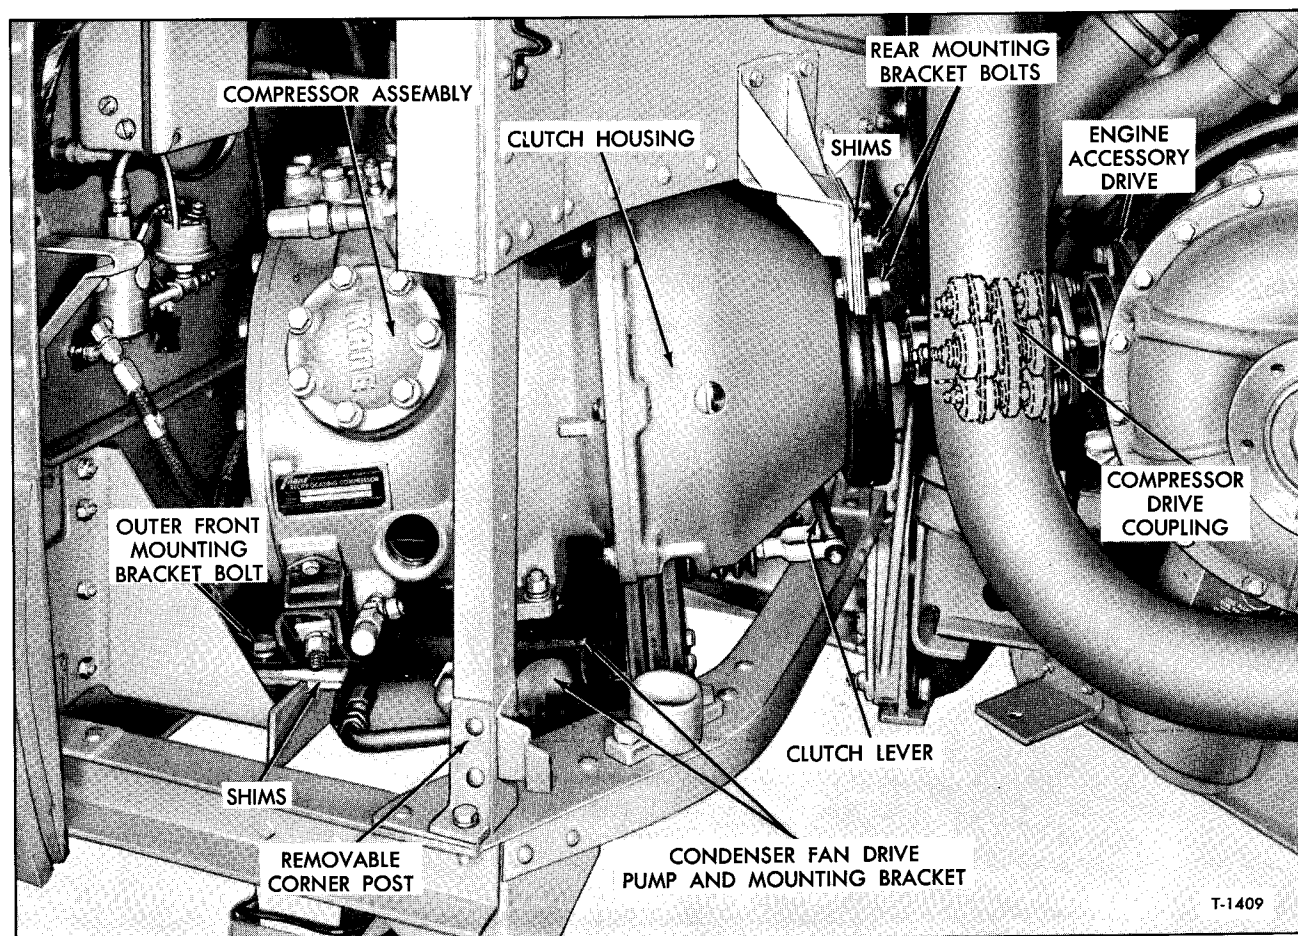
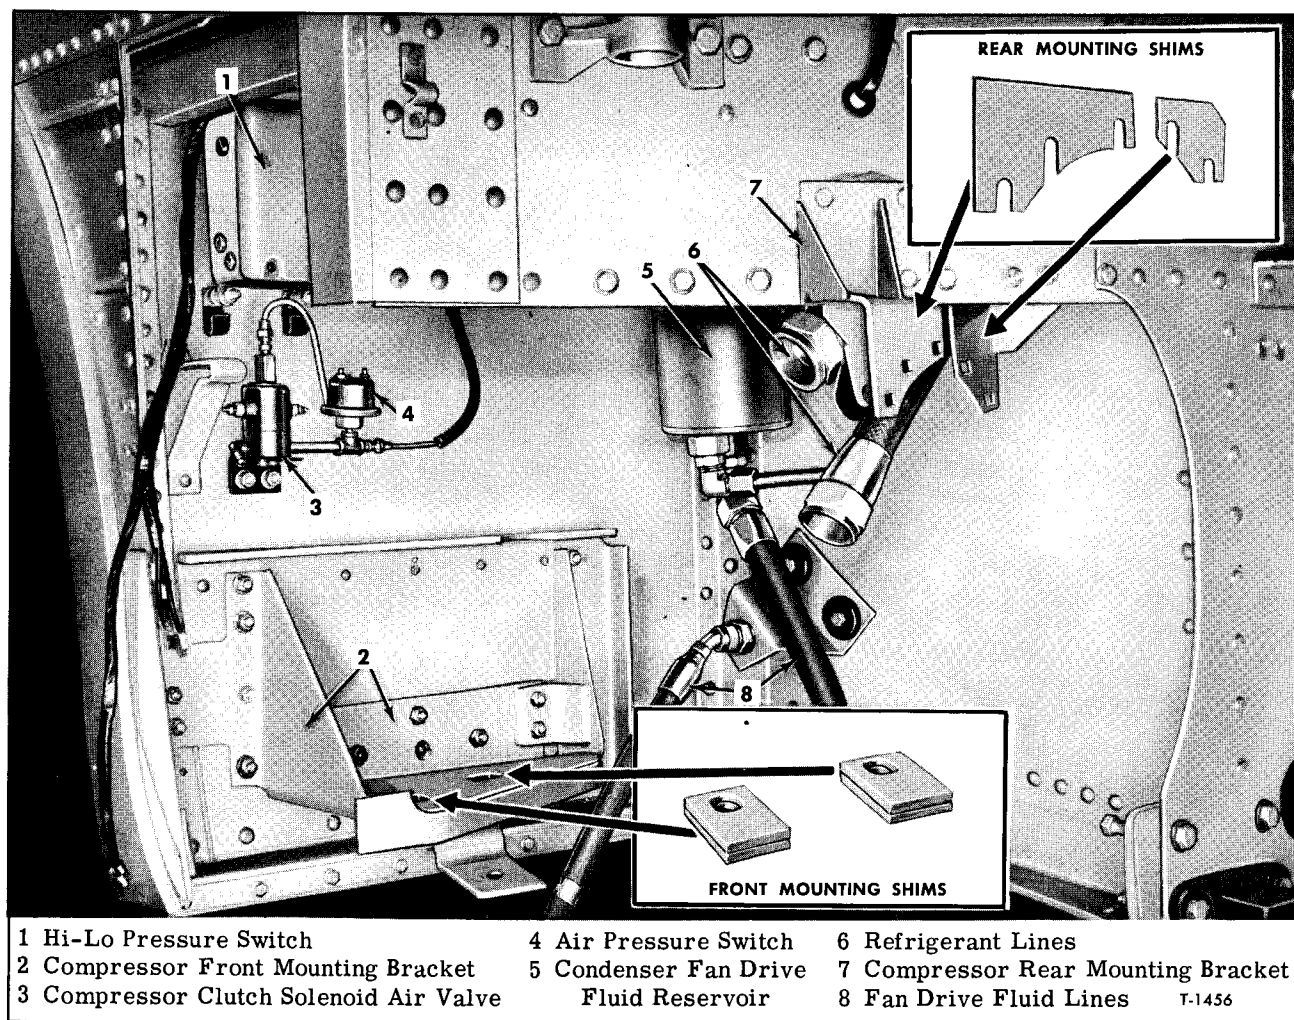
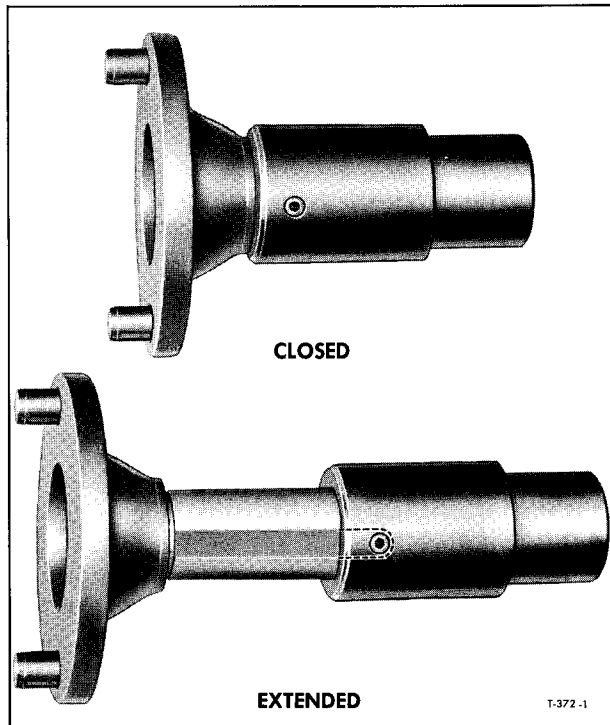

Figure 7—Refrigerant Compressor and Clutch Assembly Installed (Radiator Removed)
Figure 8—Refrigerant Compressor Compartment Showing Mounting Brackets, Shims, and Related Items
Figure 9—Compressor-To-Engine Alignment Tool
Illustrations of latest compressor mounting brackets are shown in figures 8 and 13, and procedure for disconnecting compressor mountings from brackets are included later under "Refrigerant Compressor Replacement."
Refer to figure 7 for view of compressor installed in coach and to figure 8 for view of compressor mounting brackets and shims.
front bracket (2, fig. 8) which is mounted on compartment bulkhead. Remove and tag the shims (fig. 8) at each front mounting point, so the shims can be reinstalled in original locations when compressor is installed.
2. At compressor rear mounting bracket (7, fig. 8), remove the bolts attaching compressor to compressor rear mounting bracket inner ring.
NOTE: The foregoing step (No. 4) is necessary since the alignment tool (fig. 9) MUST be used to insure correct alignment whenever the A/C compressor is being installed.
The aligning tool shown in Maintenance Manual X-6114, page 35 in SECTION 26 cannot be used for aligning compressors with Morflex coupling. Figure 9 shows tool which must be used. Refer to "Aligning A/C Compressor with Drive" later in this section for instructions for use of aligning tool.
4. Attach compressor rear mounting assembly to clutch housing with four bolts and lock washers, then install rear mounting shims (fig. 8) and mounting-to-bracket bolts. Do not tighten bolts until compressor is aligned by using tool (fig. 9).
(fig. 9) to accomplish alignment.
3. Add or remove shims (fig. 8) at compressor front mounting bracket to raise or lower front of compressor assembly. With bolts loosened at front and rear mounting brackets, the compressor assembly can be moved sidwise to align the clutch shaft with drive flange. Shims at rear bracket are used to locate compressor longitudinally.
The air conditioning clutch removal procedure as given in AIR CONDITIONING (SEC. 26) beginning on page 47 in Maintenance Manual X-6114 can be used to remove the clutch assembly from all coaches, except that steps 9 and 10, page 49, may be omitted, since it is recommended the tool (figs. 9 and 10) always be used to align the compressor with accessory drive when installing clutch.